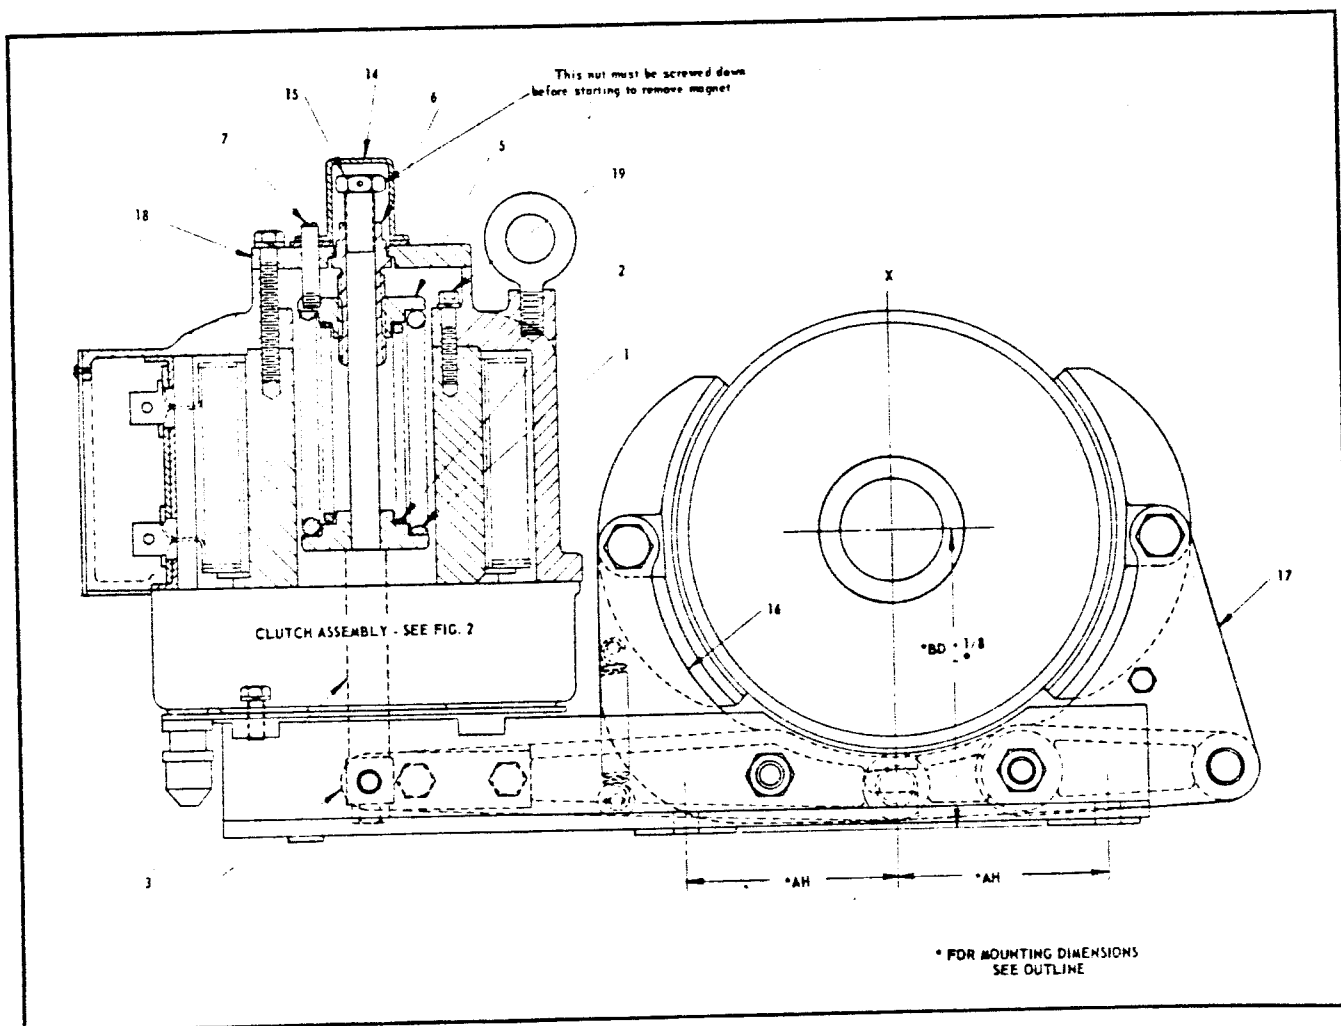
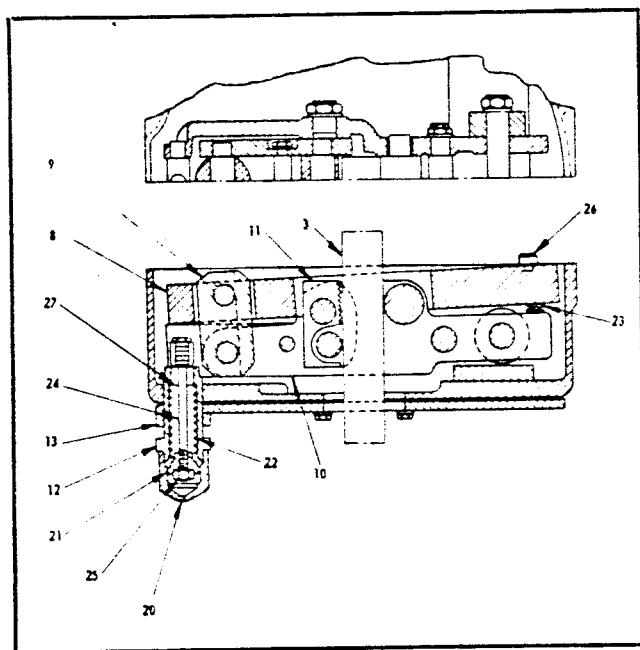

FIG. 1. Type SA Brake Assembly
FIG. 2. Clutch Assembly
### 3. Description of Operation—See Fig. 1 and Fig. 2.
a. Compression springs 1 and 2—Fig. 1—exert a downward force on spindle 3 which, acting on end of lever 4 applies shoes against wheel with equal force. The amount of the spring force is adjusted by raising or lowering the upper spring seat 5 by means of adjusting bushing 6. Turning this bushing counter-clockwise increases the spring compression, and turning clockwise decreases it. An indicating pin 7 shows the torque rating for each frame.
b. When the coil is energized, the clapper 8—Fig. 2—is attracted upwards and by means of link 9 connected to ends of levers 10 moves clutch block 11 against spindle 3, and since both the clutch block and spindle have fine pitched teeth cut on the mating surfaces, they are now solidly engaged, and the continued movement of the clapper lifts the spindle against the force of the springs and releases the wheel.
d. The disengaged position of the clapper assembly is fixed by the position of the adjusting plug 12—Fig. 2—which is threaded through the bottom of the housing which surrounds the clapper assembly. Unscrewing this adjusting plug will increase the travel of the spindle and screwing it up will decrease the travel. Once this adjustment is made to obtain the proper shoe clearance the adjusting plug should be locked by means of the locknut 13.
b. To remove wheel from brake as received, remove cap 14—Fig. 1—and cotter key from top spindle nut 15. Loosen shoe bolts and turn spindle nut down until wheel is free. Lift out wheel and mount on motor shaft. Place brake on mounting surface and insert mounting bolts hand tight. Back off spindle nut to allow shoes to set on wheel, and bump brake into position so that linings fit square across the face of the wheel. Tighten mounting bolts and insert cotter key in top spindle nut. Tighten shoe bolts.
2—and unscrew adjusting plug 12 to increase spindle travel. To increase spindle travel by  $\frac{1}{32}$  inch will require backing off adjusting plug  $\frac{1}{16}$  inch. When proper travel has been obtained, tighten up locknut, and replace cap 14—Fig. 1.
b. On frames 1355, 1665, 1985 and 2311, the brake shoe arms 16, 17—Fig. 1—and main lever 4—Fig. 1—are fitted with "Oilite" bearings. A few drops of oil around these bearings occasionally will maintain their lubricated quality.
a. Remove cap 14—Fig. 1—and cotter key from top spindle nut 15. Turn nut down until shoes are free of wheel. Remove top plate 18 of magnet. Disconnect coil leads and remove flange bolts holding magnet housing to clutch housing. Lift up magnet housing and set on floor or bench.
d. Lower magnet over spindle, making sure that dowel pins 26 in clapper 8—Fig. 2—are entered in holes in bottom face of magnet housing. Back off top spindle nut and secure with cotter key and replace cap.
a. To remove clapper assembly, remove cap 20—Fig. 2—spring locknut 25 and spring seat 21, and spring 22, leaving spring seat 27 up inside adjusting bushing 12. Remove magnet as directed in paragraph 9 (a).